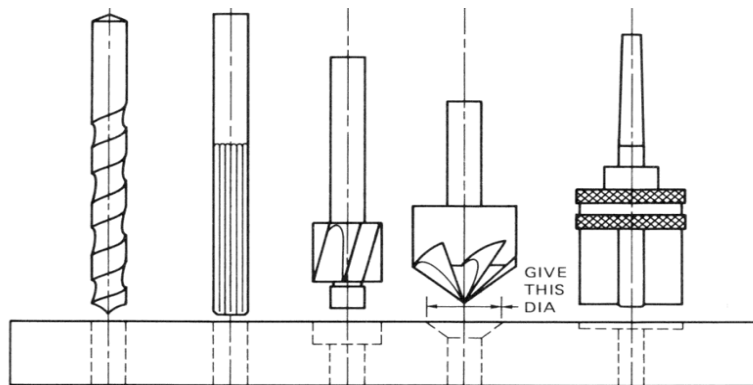

Figure 3: Types of Hole-Preparation and Finishing Tools
3. Examine the drawing of various hole-finishing tools as shown in the **figure 3** below. Classify each tool by its function and state its name on the blank line provided.